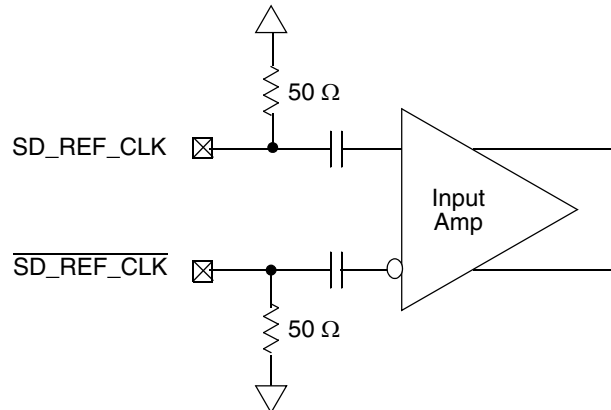

Figure 51. Receiver of SerDes Reference Clocks
Figure 51 shows a receiver reference diagram of the SerDes reference clocks.
- The SD_REF_CLK and $\overline{SD_REF_CLK}$ are internally AC-coupled differential inputs as shown in Figure 51. Each differential clock input (SD_REF_CLK or $\overline{SD_REF_CLK}$) has on-chip 50-Ω termination to $SGND_SRDSn$ (xcorevss) followed by on-chip AC-coupling.